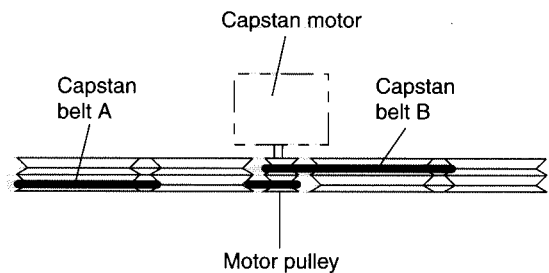

Fig.6
- 2.While raising the capstan motor, remove the capstan belts A and B respectively from the motor pulley (See Fig. 6).